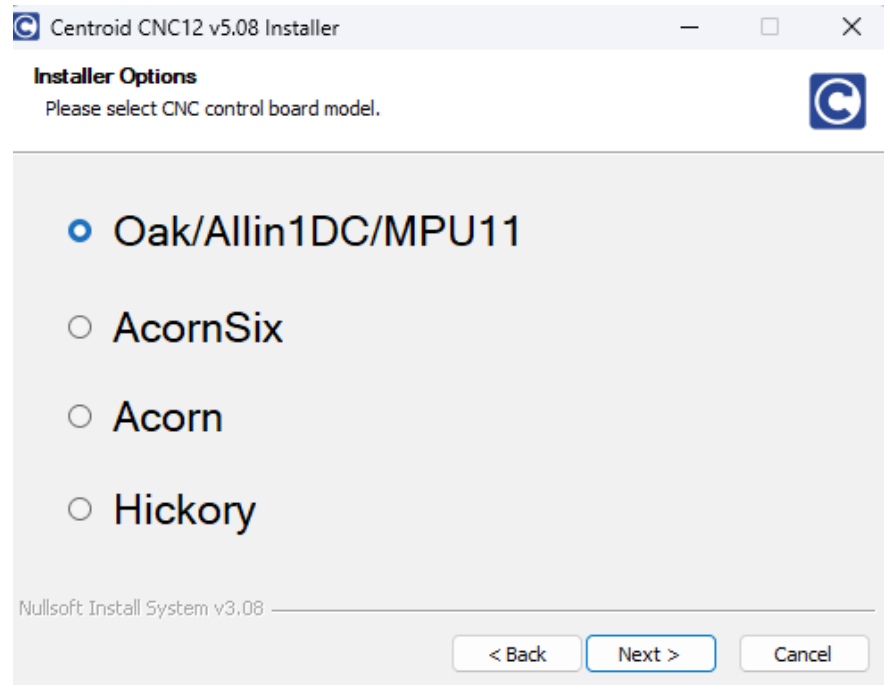

Figure 3.2.4
8. **Installer Options – Control board model.** Select “Oak/Allin1DC/MPU11” component of CNC12 shown in Figure 3.2.4.